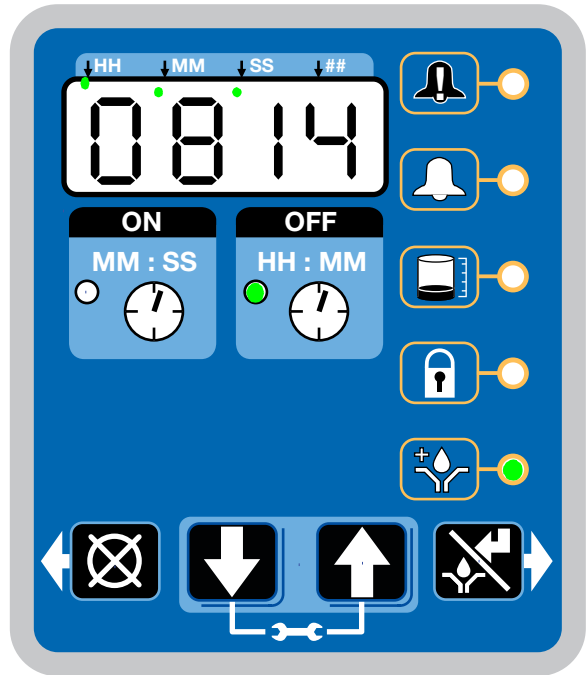

FIG. 36
- The LED next to the clock in the OFF field is illuminated (FIG. 36).
- The Prelube LED lights (FIG. 36).
- The display shows time remaining until lubrication cycle begins. The example shown in FIG. 36 shows 8 minutes and 14 seconds left until a lubrication cycle begins.